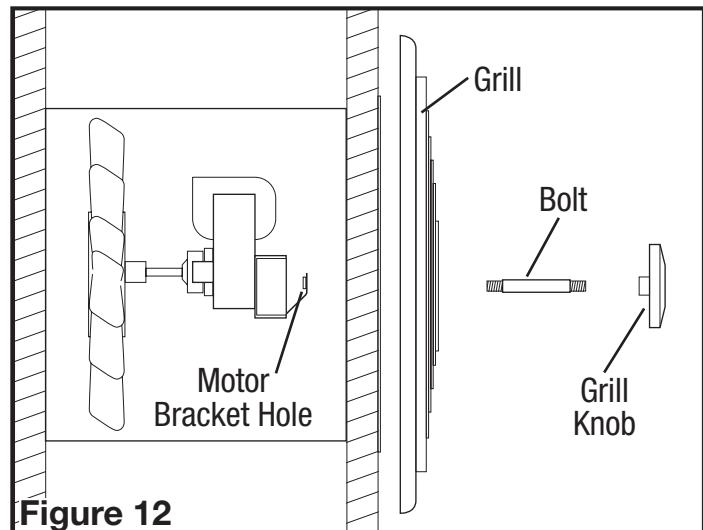

Figure 12
- Install grill by positioning over the inner housing and aligning the center hole on the grill with the hole on the motor bracket. Screw one side of the included grill bolt into the hole on the motor bracket and the other side into the grill knob and turn to tighten until the grill is tightly fit against the wall. DO NOT OVER TIGHTEN (Figure 12).